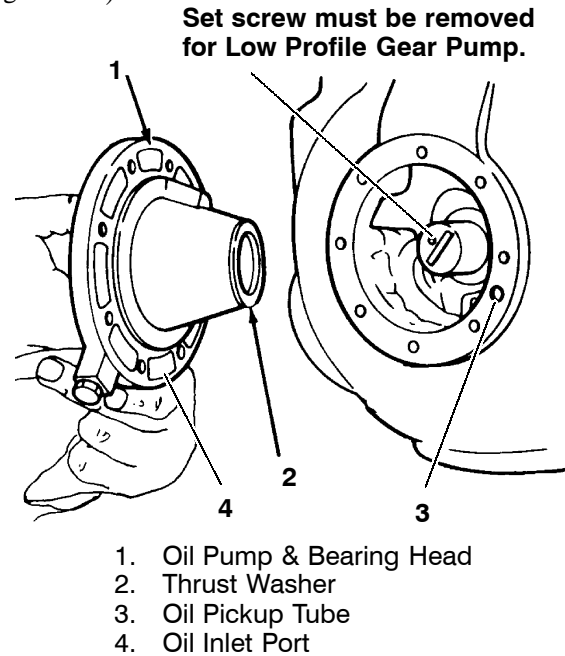

Figure 3-4. Oil Pump and Bearing Head Assembly
Remove eight capscrews and remove oil pump bearing head assembly, gasket and thrust washer. (See Figure 3-4.)
**Set screw on crankshaft must be removed for Low Profile Gear Pump (See Figure 3-4).**
2. Install the pump end thrust washer on the two dowel pins located on the bearing head. (See Figure 3-4.)
1. Install the pump end thrust washer on the two dowel pins located on the bearing head. (See Figure 3-4.)
3. Remove eight capscrews and remove oil pump bearing head assembly and gasket. (See Figure 3-4.)